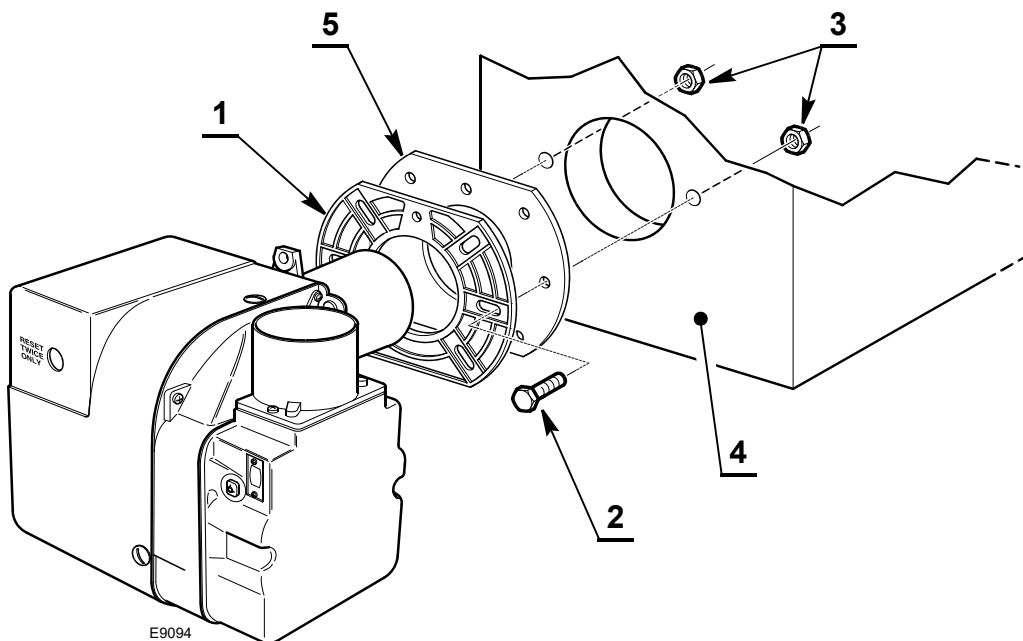

Fig. 7
- Fix the flange 1) to the appliance (4) using the supplied bolts 2) and nuts 3) with the gasket 5) in between as in Fig. 7.